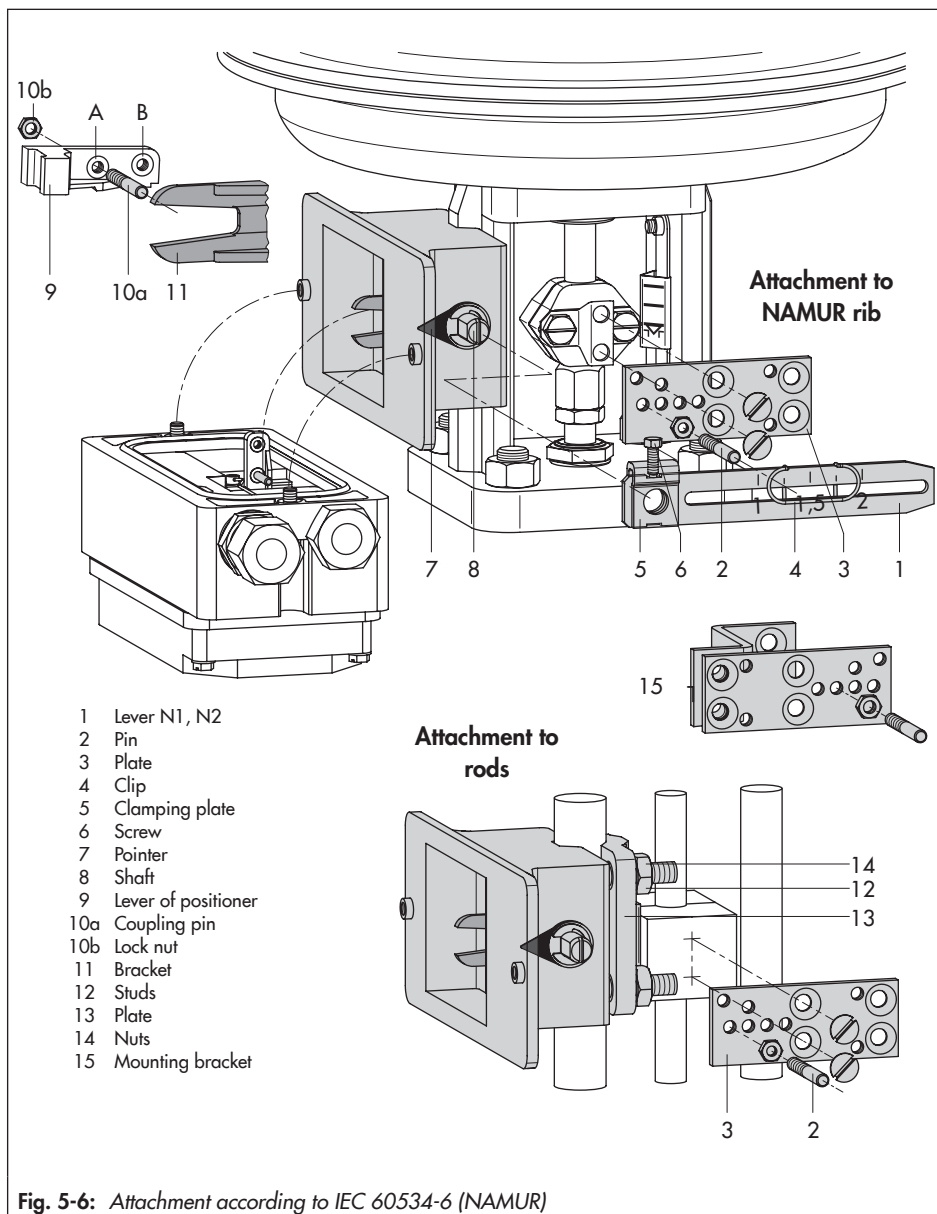

Fig. 5-6: Attachment according to IEC 60534-6 (NAMUR)
An adapter housing is used for attachment (Fig. 5-6). The valve travel is transmitted by the lever (1) and the shaft (8) to the bracket (11) of the adapter housing and then passed on to the pin (10a) on the lever of the positioner. To ensure that the pin (10a) is proper-
→ See Fig. 5-6
2. Move the shaft (8) in the adapter housing so that the black pointer (7) matches the cast marking on the adapter housing.
3. Fasten the clamping plate (5) in this position using the screw (6).
4. Screw the pin (10a) into the positioner lever on the side where the press nut is located. Lock it in position with the hex nut on the other side, observing the mounting position **A** or **B** according to Table 5-1 and Fig. 5-6.
5. Place the positioner on the adapter housing, taking into account the mounting direction. Fasten it, making sure that the pin (10a) rests against the bracket (11).